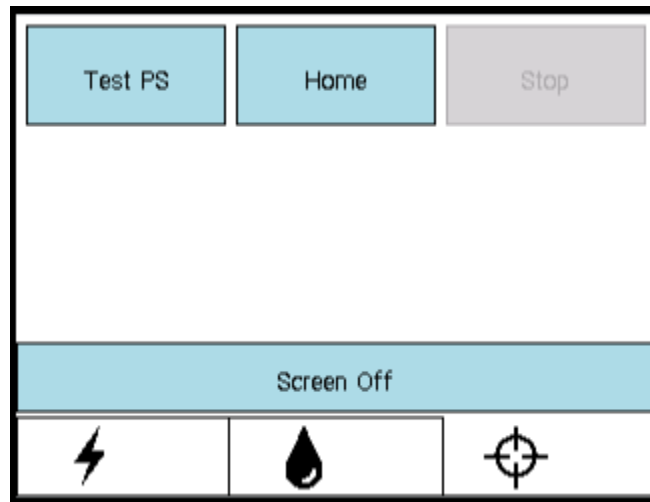
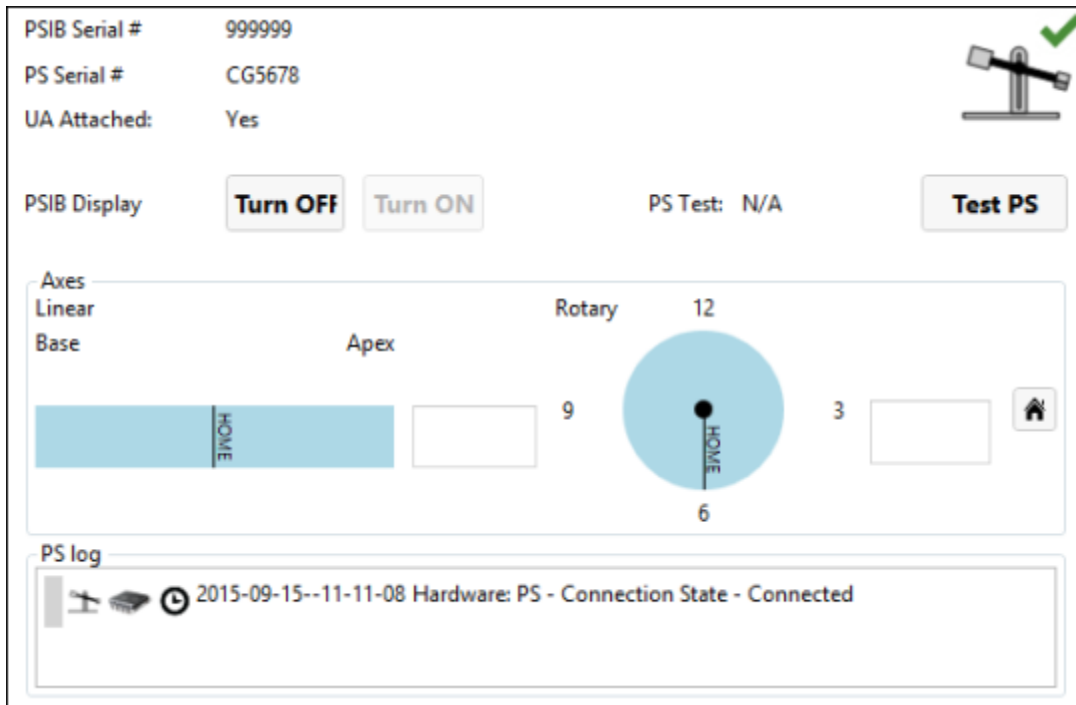

Figure 16: PSIB display - PS tab
Figure 17: PS information box in Setup workspace
- b. On the PSIB display, select the PS tab and click **Test PS** (*Figure 16*). The system will translate the PS forward and backward to test the continuity and functionality of the translation axis as well as home the PS in the translation axis. The system will also rotate the rotational axis clockwise and counter-clockwise to test the continuity and functionality of the rotational axis. (This can also be done from the TDC *Setup* workspace in the PS information box in the bottom-right quadrant *Figure 17*.)